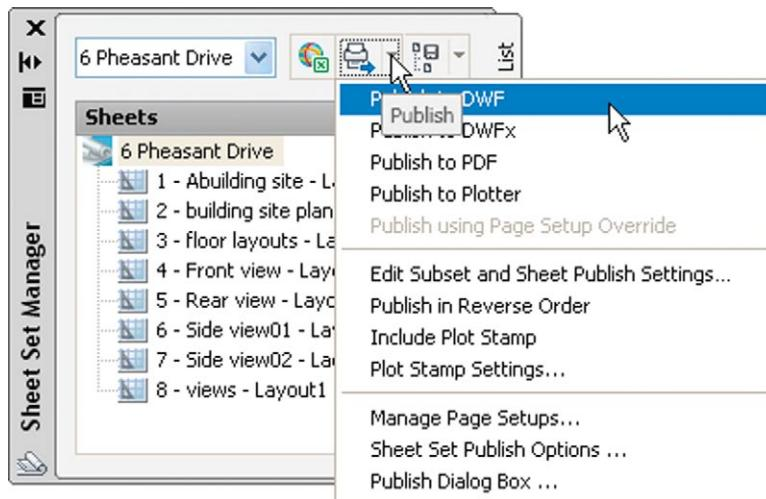
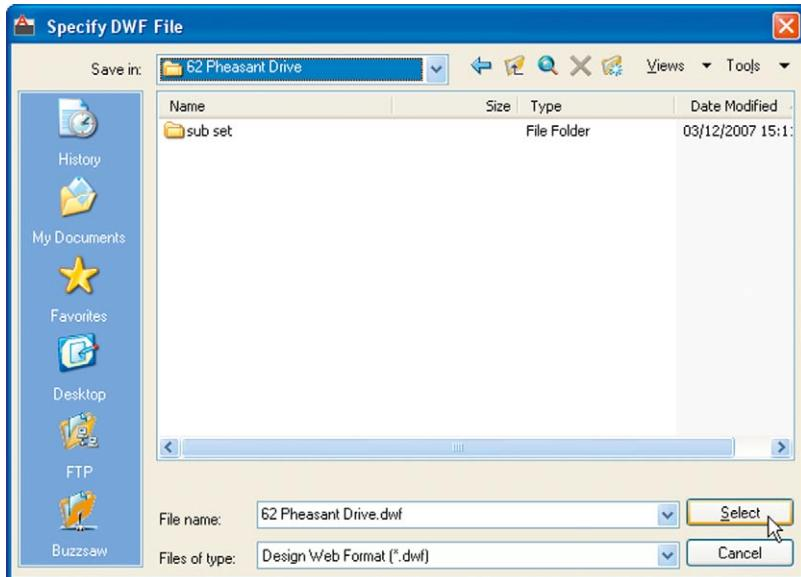

Fig. 11.10 The **Publish** icon in the Sheet Set Manager
Fig. 11.11 The **Select DWF File** dialog
1. In the **62 Pheasant Drive Sheet Set Manager** click the **Publish** icon, followed by a click on **Publish to DWF** in the menu which appears (Fig. 11.10). The **Specify DWF File** dialog appears (Fig. 11.11). Enter **62 Pheasant Drive** in the **File name** field followed by a click